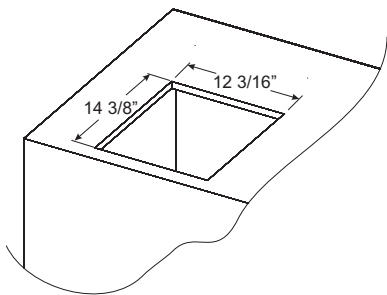
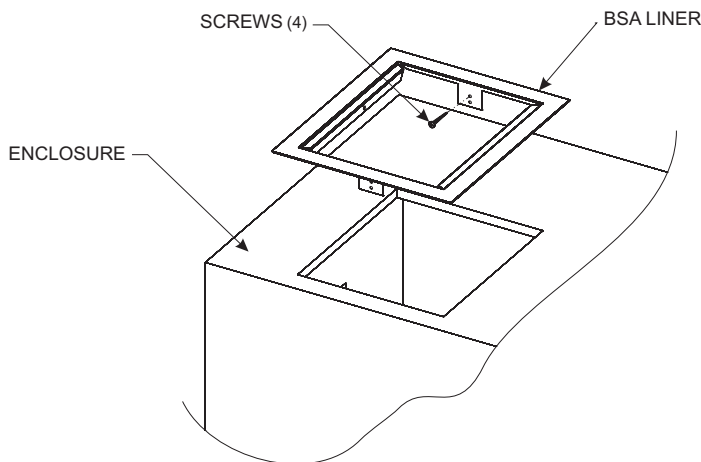

FIGURE 1
FIGURE 2
Make sure BSA Side Burner Surround opening dimensions match those in FIGURE 1. Place the BSA Liner into the Enclosure and check for proper hole alignment. Secure the BSA Liner to the Enclosure with four (4) 8 x 3/4" Hex Head screws. You should use the inside holes located on the inside of the BSA Liner. FIGURE 2.